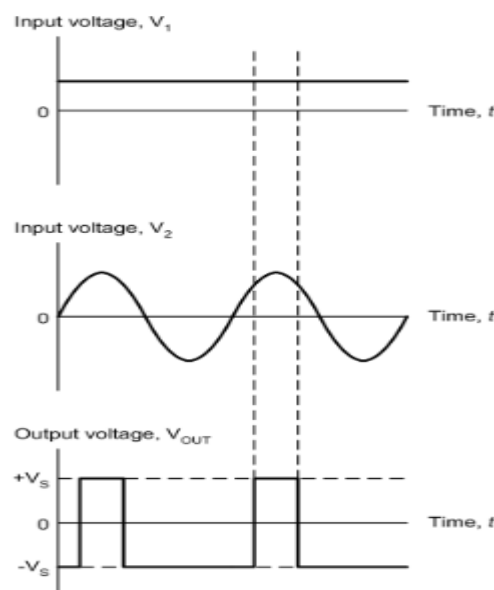

Fig 2.13. Typical input and output waveforms for a comparator.
- Typical input and output waveforms for a comparator are shown in Fig. 2.13.